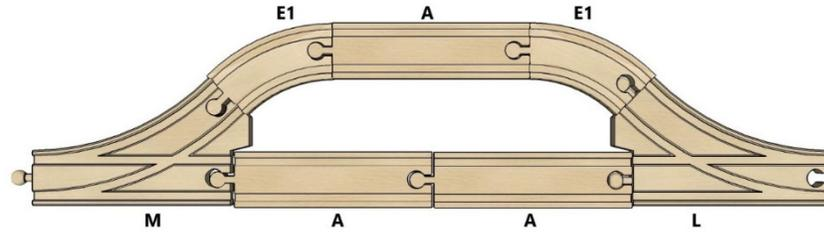

Figure 8: Siding design for a 4-car train
- During the activity, students will modify the mainline by constructing passing sidings. Initially, they will construct passing sidings long enough for a 4-car train, but they will later discover the benefits of long sidings that can hold a 6-car train. The sidings as shown in Figures 8 and 9 will replace either four or five “A” sections in the mainline, respectively. The following materials are required for one 4-car siding (a total of five passing sidings are required for the preferred layout, requiring all values below to be multiplied by five):